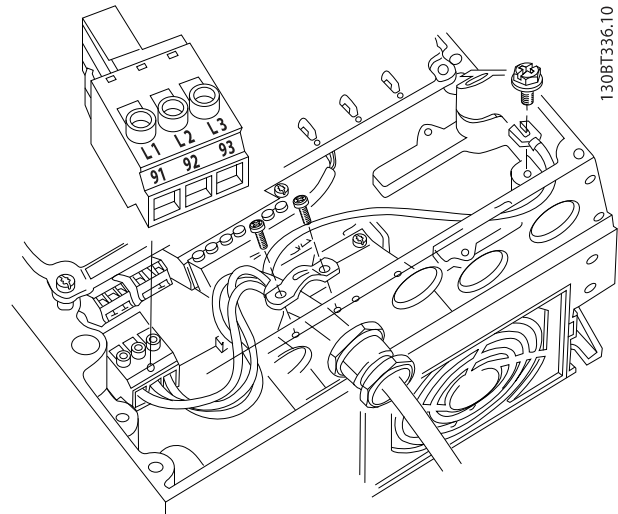

Figure 2.17 Connecting to AC Line Power
- Connect 3-phase AC input power wiring to terminals L1, L2, and L3 (see Figure 2.17).